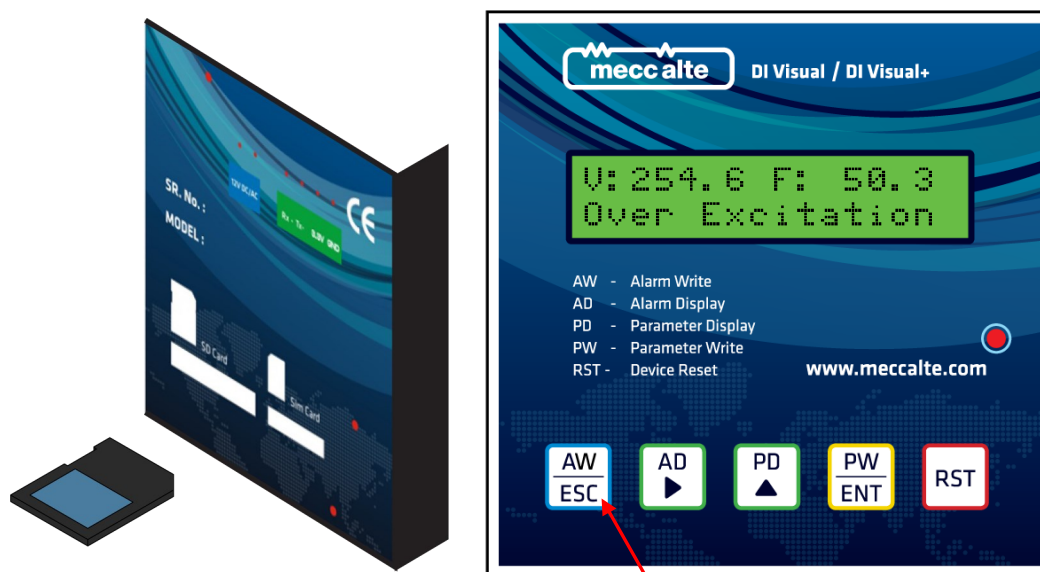
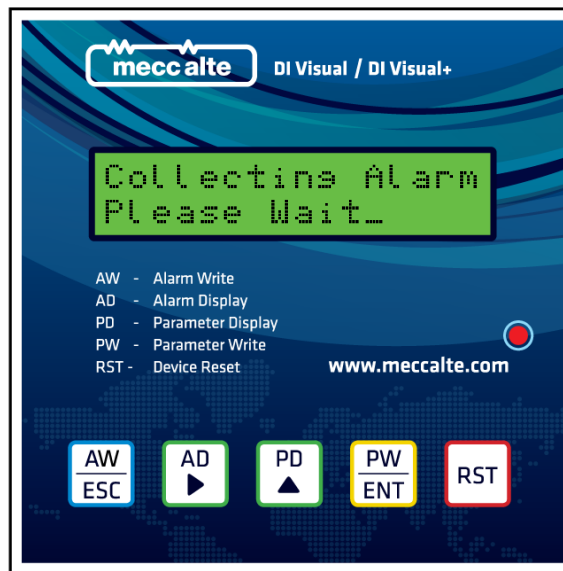

fig. 12
fig. 13
2) Once the SD card is inserted keep the **AW / ESC** key pressed as shown in Fig. 12 above until you see "Collecting Alarms" message on the display as shown in Fig. 13 below.